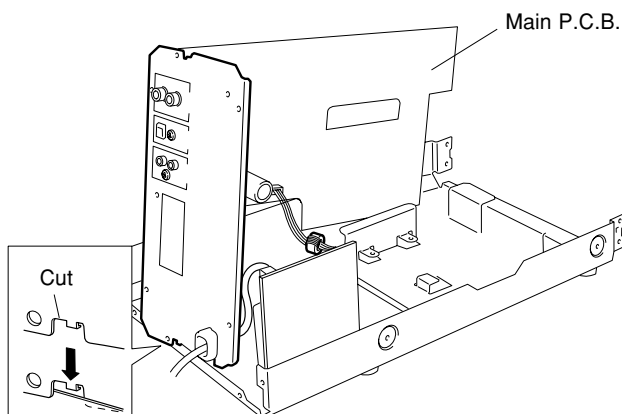

Fig. 4
- e. With the rear panel attached, set the Main P.C.B on its side as shown in Fig. 4.
At this time, fit the cut in the rear panel with the main chassis as shown in Fig. 4.